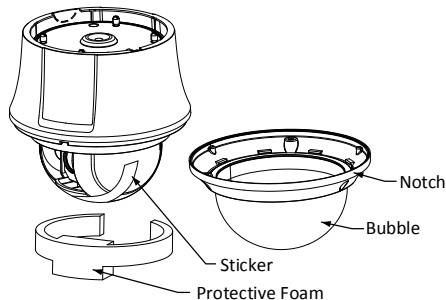

Figure 1-35 Disassemble the Speed Dome
3. Remove the protective lens cover, foam and sticker from the dome drive as shown in Figure 1-35.